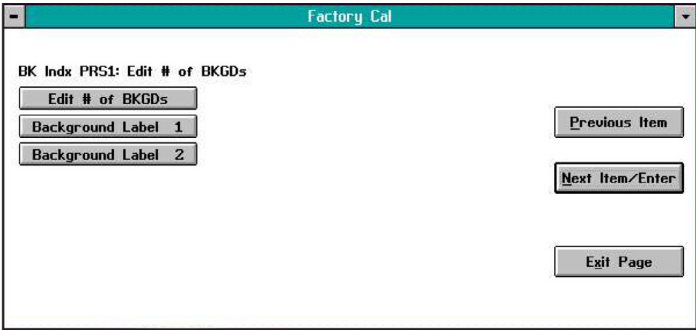
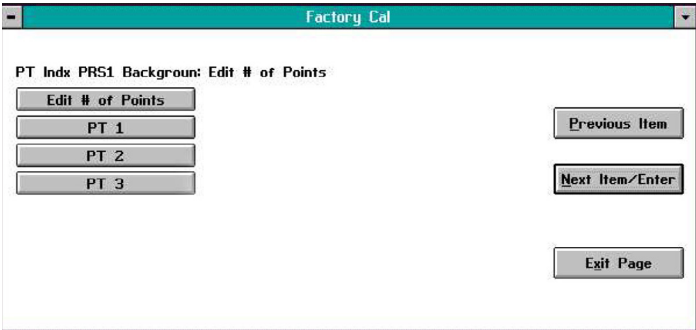

Figure 45: Background gas window
Figure 47: PRS1 BKGD points window
To begin entering your data points for each of the pressure compensation curves, click on the *PRS1* button in *Figure 43* on *page 29* to open a window similar to *Figure 45* below.
In the above window, enter the number of background gases for which you have compensation data at the first compensated pressure. Then, click on the *Next Item/Enter* button to confirm your entry and return to the window in *Figure 45* above.
In the window shown in *Figure 45* on *page 30*, click on the *Background Label 1* button (the actual text on this button will correspond to the label you entered in the previous section) to open a window similar to *Figure 47* below.
To begin entering your data, click on the *PT 1* button in *Figure 47* above to open a window similar to *Figure 49* below.
1. Repeat the procedure beginning at *Figure 47* on *page 30* until you have entered data for each parameter at all of the points listed.
2. Click on the Exit Page button to return to *Figure 45* on *page 30*.
3. Repeat the procedure beginning at *Figure 45* on *page 30* until you have entered data for each of the labeled background gases.